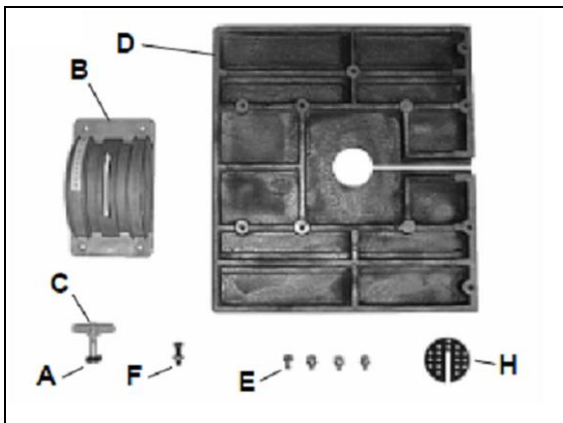

Fig 2
Insert the M8 x 50 coach bolt and square plastic insert (A, Fig 2) through the slot on the upper trunion casting (B) and, temporarily, screw on the winged nut (C) to prevent it falling out.
Fit the plastic table insert (H, Fig 2) to the centre of the table with the angled bevel facing downwards.